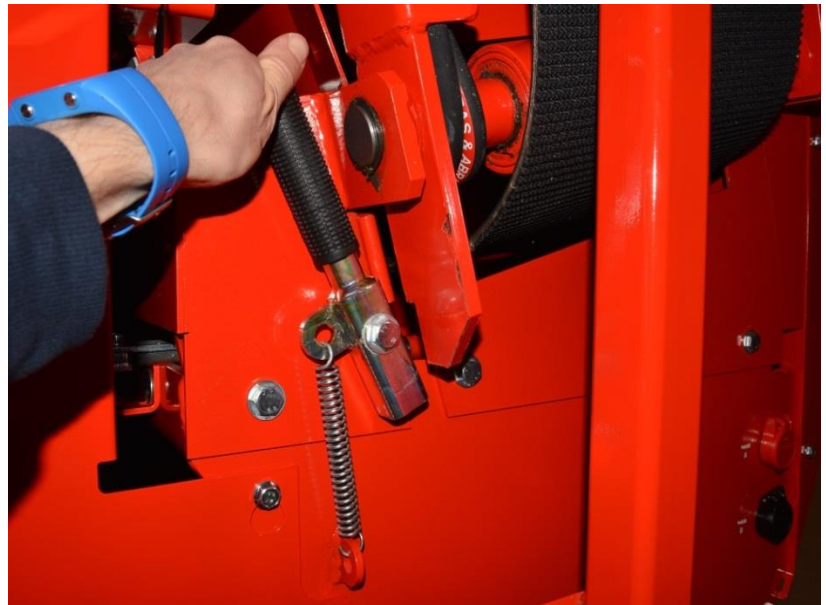

Figure 3.
2. Release the lock by opening the latch shown in Figure 3.